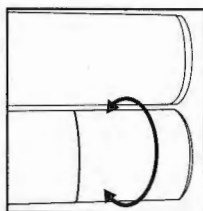
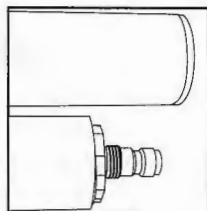

Fig.3a
Fig.3b
2. Locate the fill probe cap on the reservoir and unscrew the cap (Fig.3a). You will see the fill probe. (Fig.3b)